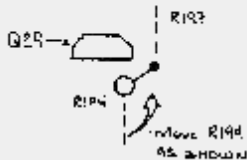

FIGURE 2
10. Install a 560 Kohm resistor on the component side of the board as shown in figure 2. This resistor is now designated as R194.